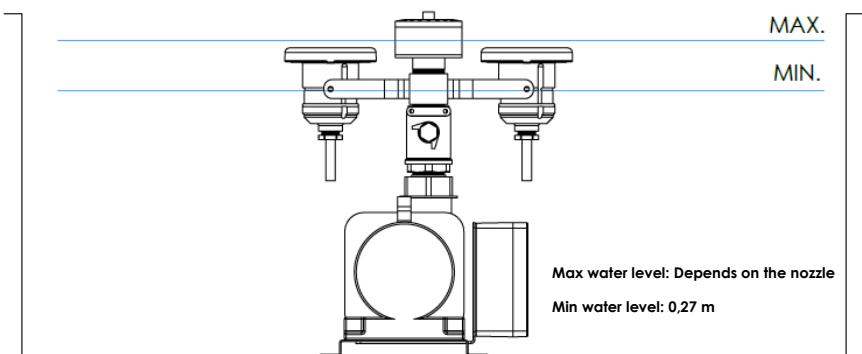

Fig. 3:Vulcano kit installation example
- 8) Immerse totally the pump, with a minimum of 27cm of water depth (fig.3).